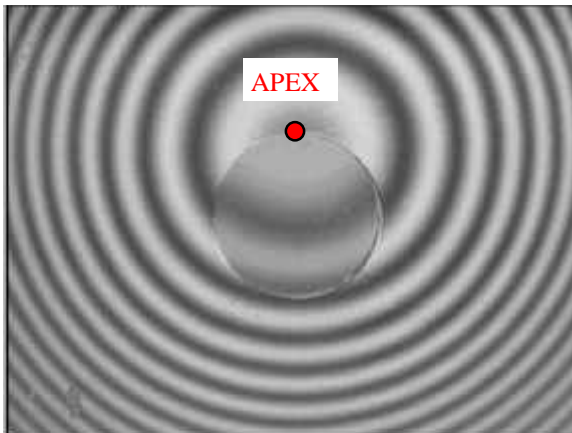

Figure 1 - Connector at 12 o'clock
2. Switch to fringe mode if currently in inspection mode and optimize the fringe contrast by adjusting the focus micrometer. Rotate the ferrule such that the apex of the ferrule is at the 12 o'clock position. See figure 1.